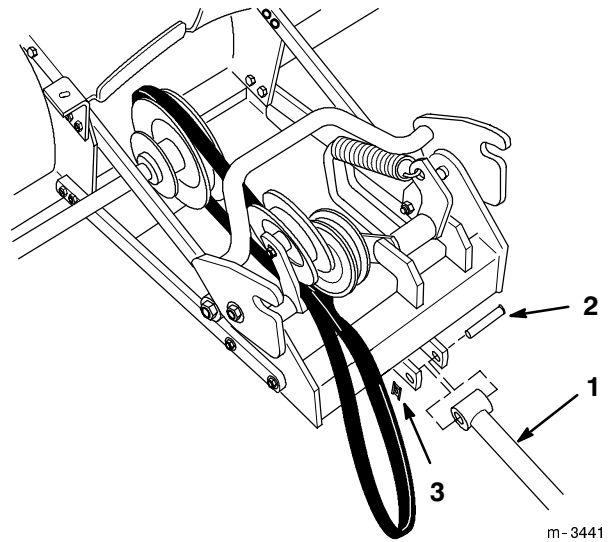

Figure 4
3. Connect the lift tube to the pulley housing with the 2 5/8 in. (67 mm) clevis pin and clip (Fig. 4)